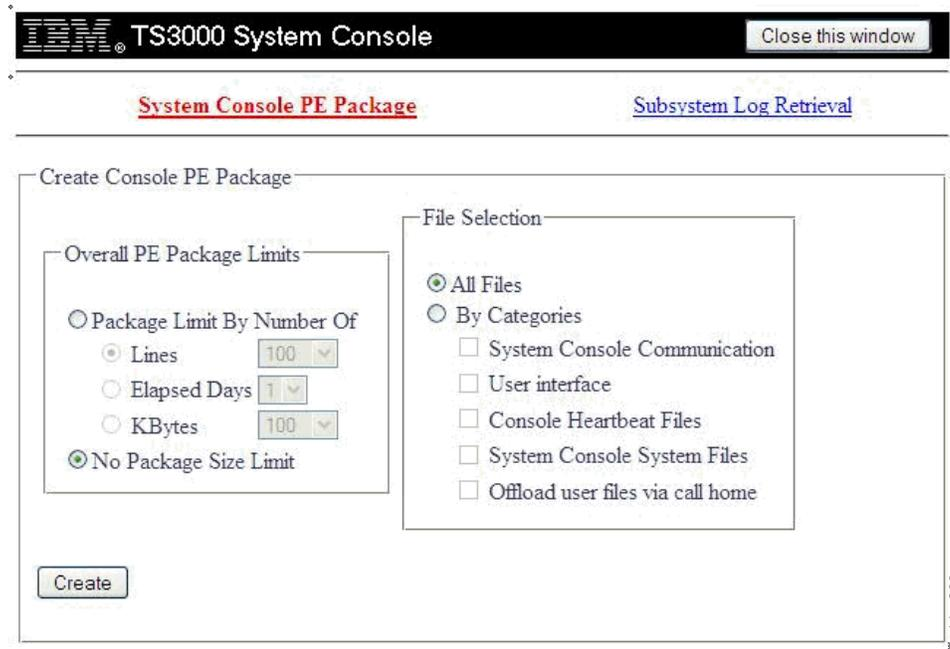

Figure 215. Create Console PE Package Menu
- Click the **PE Packages** icon. You see Figure 215.